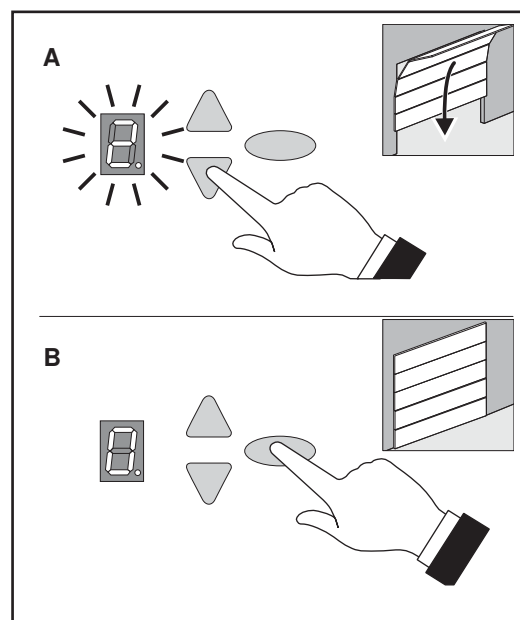

Figure 11 Setting bottom end
- A** Wait a short time until "2" starts flashing. Press button C. The door will travel in the CLOSE direction as long as the button is pressed. Release button C when door is within two inches of floor. Use B and C buttons to make final adjustments. **Figure 11.**